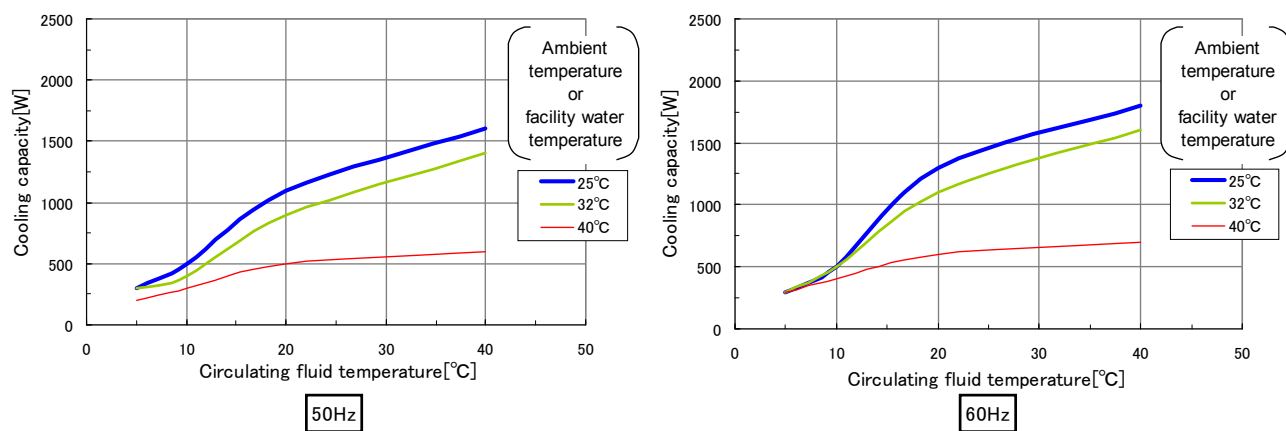

Fig. 8-4 Cooling capacity(HRS012-**-10)
*The amount of the facility water for the operation with rated circulating fluid, cooling capacity which is described in fig.8-4 to 8-8.